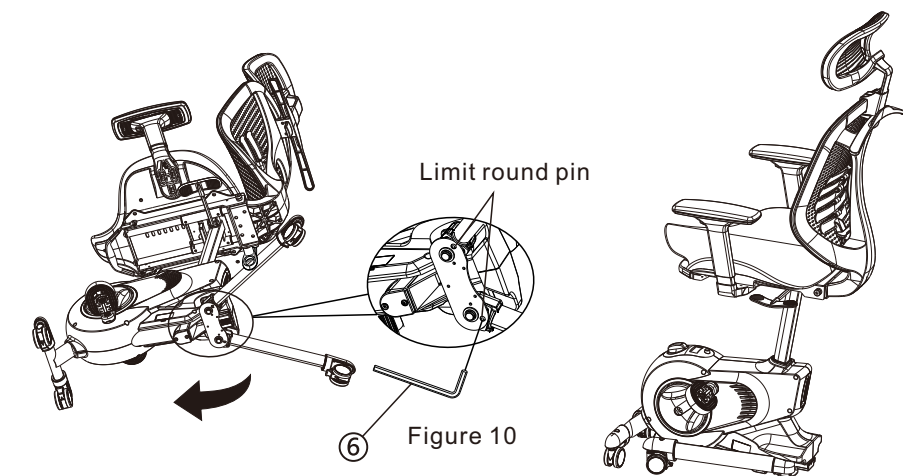

Figure 10
9. The function of folding the rear feet inward: tilt the product properly, push the limit round pin into the hole with the allen key (6) (shown in Figure 10), and fold the rear feet inward in the direction of the arrow to the bottom at the same time.